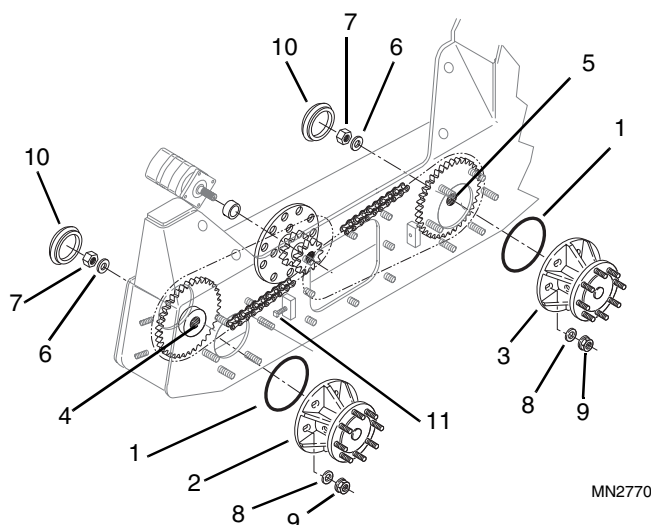

Figure 6-33 Axle Assembly Installation
2. Be sure the mating surfaces for the axle housing o-rings (Fig. 6-33, 1) are free of grease and install a new o-ring into the groove in each axle housing (2 and 3). Apply grease to the o-ring to hold it in the groove.
3. Slide the axle assembly (Fig. 6-33, 2 and 3) axle spline into the axle sprocket (4 and 5).
4. Install the hardened washer (Fig. 6-33, 6) and a new 1-1/2-12 hex locknut (7) onto each axle shaft and using a 2-1/2" deep well socket, tighten and torque the nut to 200 lb/ft (271 Nm).
5. Push the axle housing onto the axle housing studs and install the washers (Fig. 6-33, 8) and nuts (9) onto the axle housing studs and tighten finger tight.
6. Clean the rubber chain case plugs (Fig. 6-33, 10) and openings in chain case with a suitable solvent. Install the rubber chain case plugs.
8. Adjust each chain as required by turning the adjusting bolts (Fig. 6-33, 11) against the axle housing.
9. When the proper chain deflection is obtained, tighten the six nuts for each axle housing (Fig. 6-33, 9) to 100-110 lb/ft (136-149 Nm).